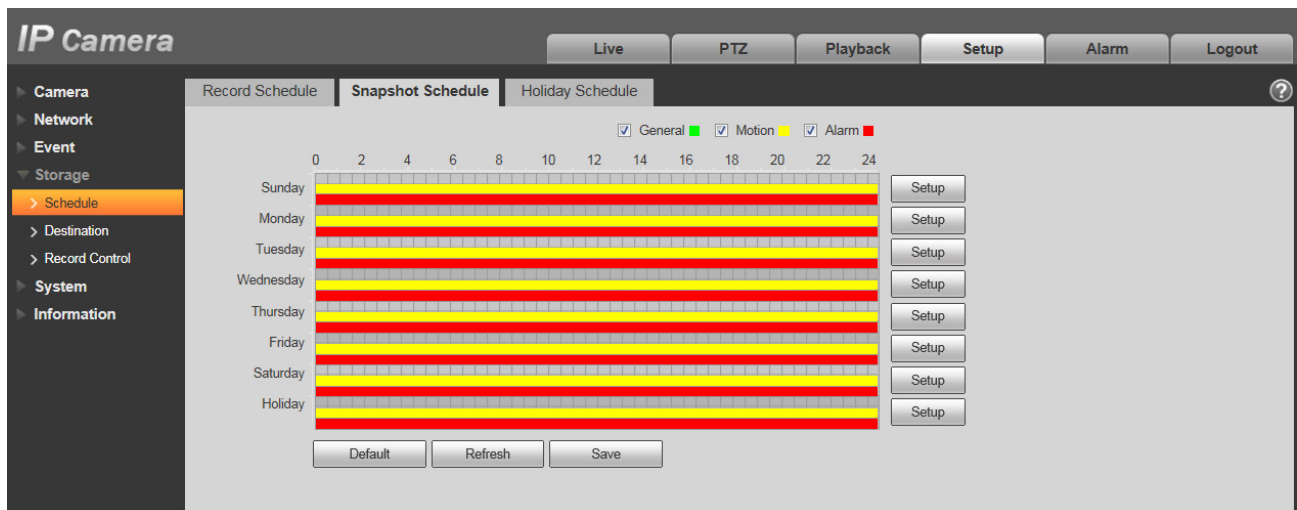

Figure 5-92
Step 1. Click on Snapshot Schedule tab, see Figure 5-92.